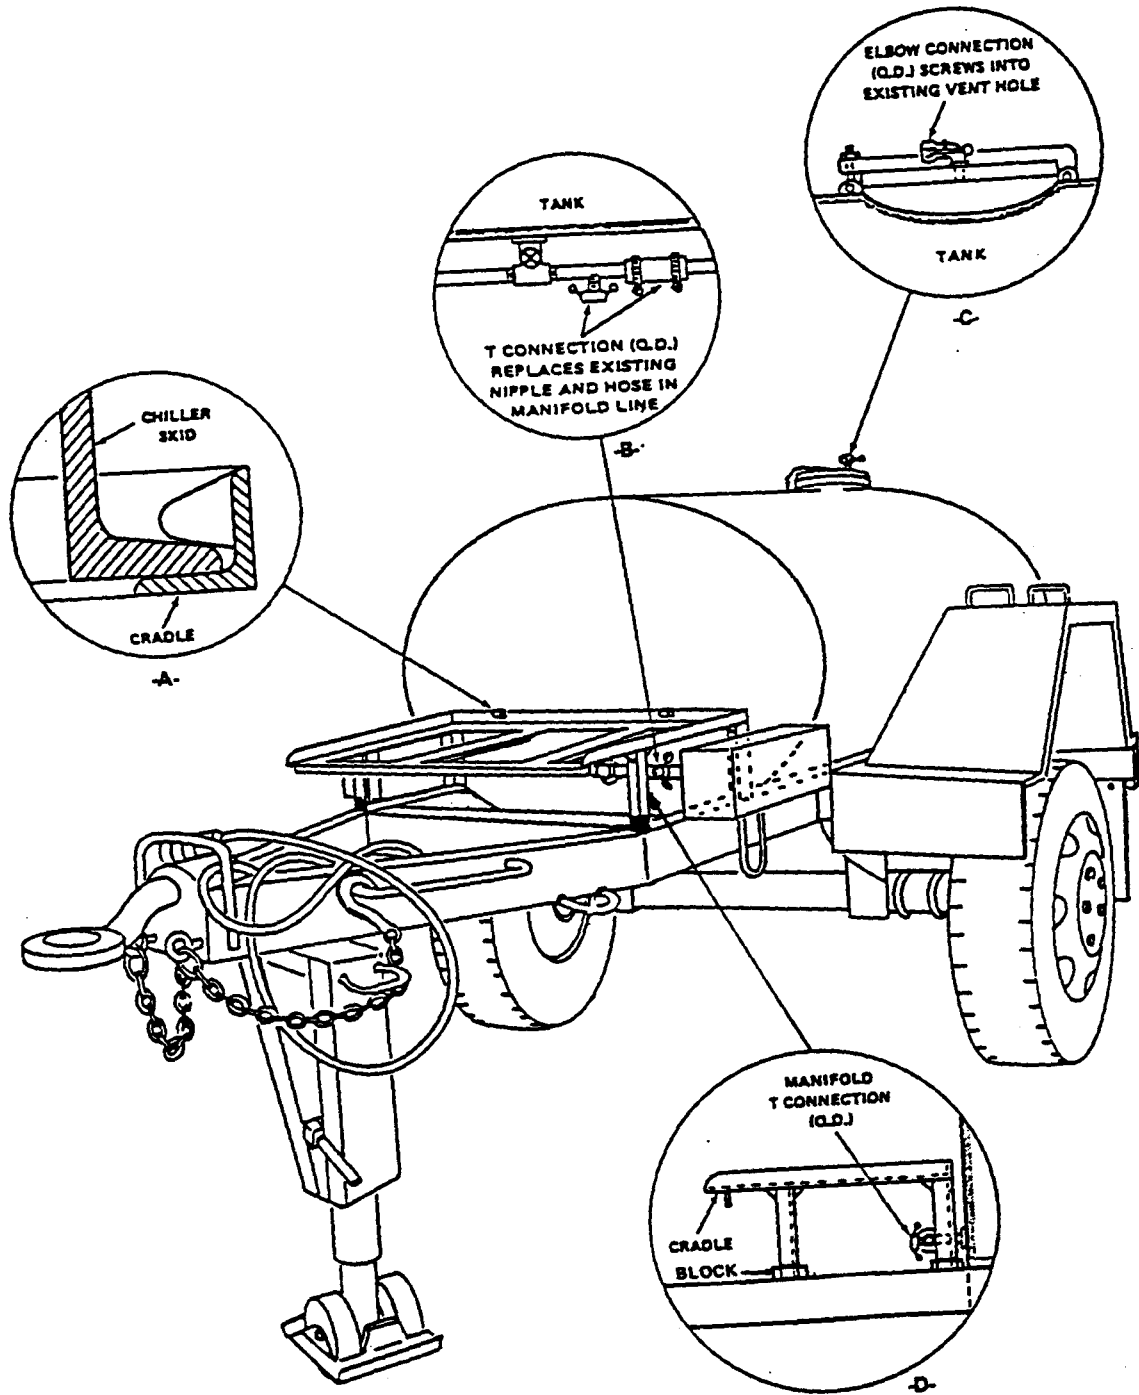

Figure 4-1. Modification of M149A 400 Gallon Trailer Tank for Small Mobile Water Chiller Installation
4-7. INSTALLATION INSTRUCTION. The basic water chiller is a skid mounted unit which can be used with various types of stationary or mobile potable water storage containers. To provide a self-contained potable water storage and mobile water chiller unit, a trailer mounting kit is provided for modifying the M149A 400 gallon trailer for water chiller installation, as shown in figure 4-1.
- 2 Screw quick disconnect elbow connection into existing vent hole (view C, figure 4-1) for water recirculating (return) hose.
- 3 Loosen clamp on hose coupling (view B, figure 4-1) and remove hose coupling from manifold pipe.
- 5 Replace hose coupling (view B, figure 4-1) and secure with hose clamps.